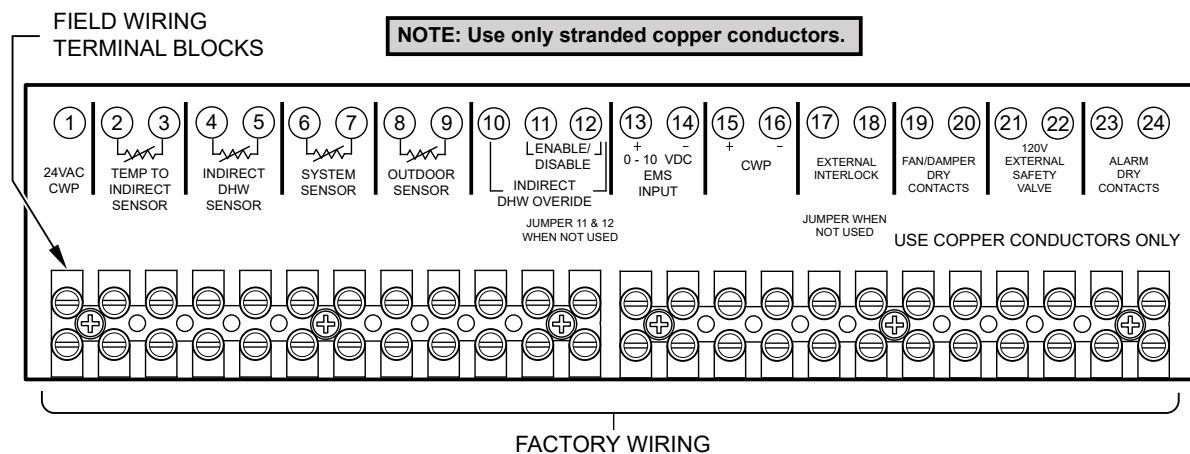

Figure 29. Low-Voltage Wiring
Field wiring connections such as sensors, interlocks, enable/disable and alarm contacts are made at the low-voltage terminal strip at the front of the heater as shown in **Figure 29**.
Connect the Enable/Disable (terminals 11 and 12) wiring to the field wiring terminals as shown in **Figure 29**. Alternately, any dry contact closure (including a remote thermostat) across these terminals will enable the XTherm heater to run.
1. If using an Outdoor Sensor, connect the sensor wires to the terminals (8 and 9) marked OUTDOOR SENSOR. See **Figure 29**.
2. To enable this remote control function, set DIP switch 5 to the UP position on the PIM. DIP switch 5 Toggles between an EMS (UP) signal or a demand signal from the VERSA (DOWN).
3. DIP switch 2 on the PIM toggles between a Direct Drive (UP) input and a Target Temperature (DOWN) setpoint.
5. Connect an Energy Management system or other auxiliary control signal to the terminals marked 0-10V (+/-) on the field wiring terminals. See **Figure 29**. Caution should be used to ensure that the +0-10V connection does not create a short to ground.
2. Connect the system supply sensor to terminals 6 and 7 on the field wiring strip located on the Master heater. See **Figure 29**.
3. Connect the Outdoor sensor (if used) to terminals 8 and 9 on the field wiring strip located on the Master heater. See **Figure 29**.
4. Connect the Enable/Disable wiring to terminals 11 and 12 on the field wiring strip located on the Master heater. This connection must be provided through dry contacts closure. See **Figure 29**. Applying 24VAC to these terminals will result in blowing the fuse on PIM.
An alarm annunciator or light may be connected to the alarm contacts on the field wiring terminal strip. The Alarm Contacts are 3A rated dry contacts on a normally-open relay that close during fault or lockout conditions, and the maximum voltage across the contacts is 30 VAC or 30 VDC. See **Figure 29**.